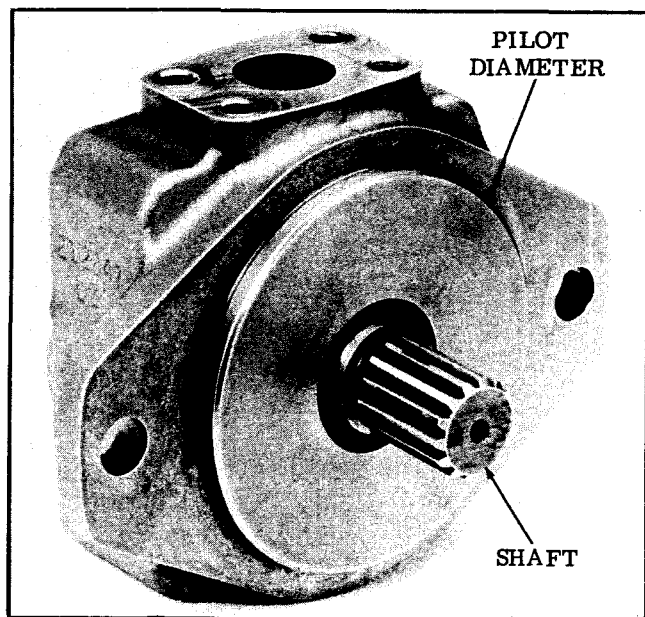

Figure 6 - Pilot Diameter
1. Direct Drive - A pilot on the pump mounting flange (Figure 6) assures correct mounting and shaft alignment,